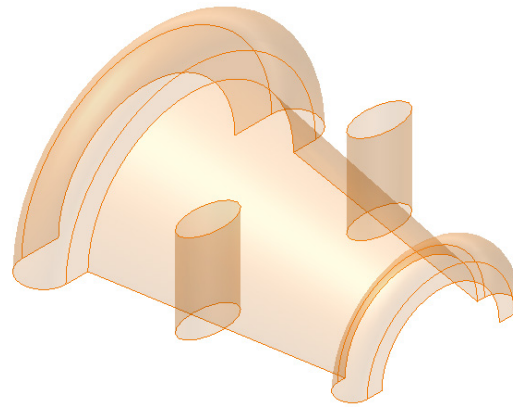

Figure 18-55 Model after creating the mirror feature
- c. Create two extruded surfaces, refer to Figure 18-55.
- Select the extruded elliptical surface and then select **XY Plane** as the mirror plane. Next, choose **OK** from the **Mirror** dialog box; the feature is mirrored, as shown in Figure 18-55.